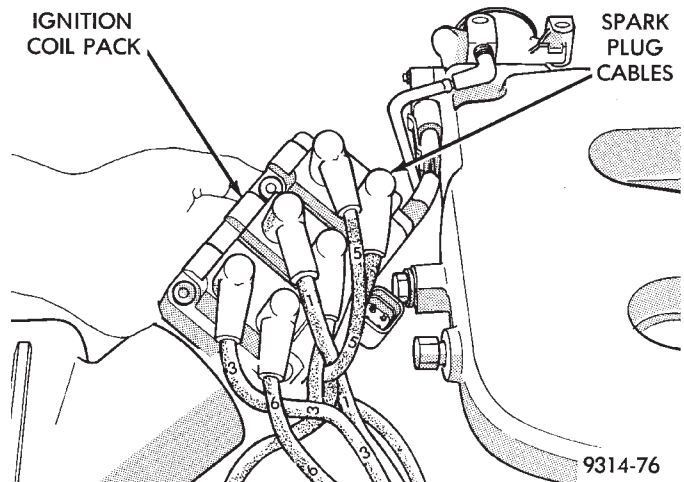

Fig. 16 Spark Plug Cable Identification
- (1) Remove air cleaner hose.
- (2) Disconnect electrical connector from coil pack.
- (3) Remove coil pack mounting screws.
- (4) Remove coil. The spark plug cables are numbered for cylinder identification (Fig. 16).